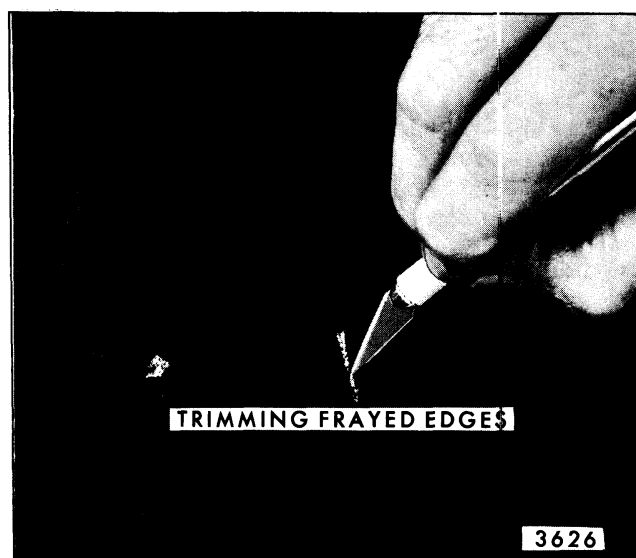

Fig. 8-33-Fabric Roof Cover Repair Trimming
- c. Using a razor knife, trim the damaged area to remove all frayed or damaged edges (Fig. 8-33).